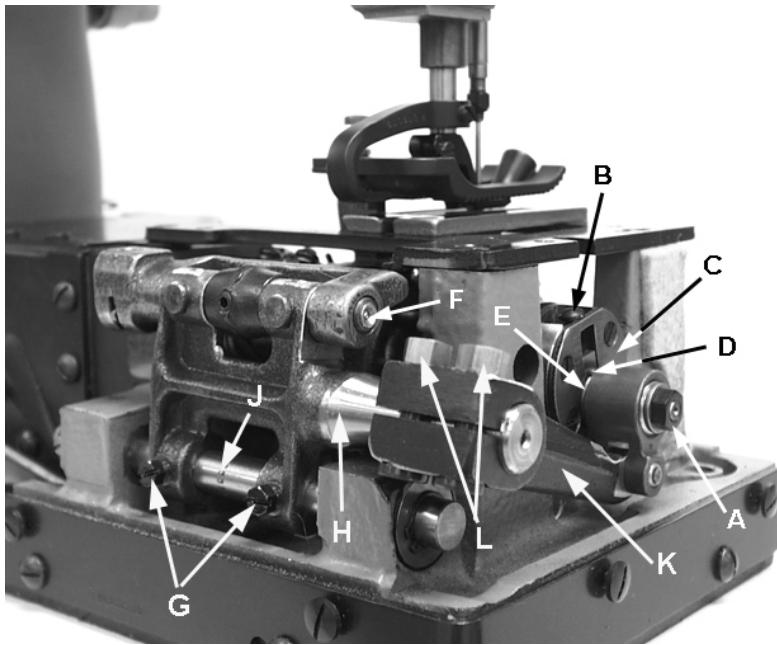

Fig 12
Right to left adjustment can be made by loosening screws (G, Fig. 12) and slightly move feed rocker (H) on feed rocker shaft (J) as required, then retighten screws. Check to ensure that feed rocker arm (K) does not bind after adjustment. Forward or rearward centering of feed dog can be accomplished by loosening nuts (L, Fig. 12), move feed rocker (H) as required and retighten nut.
Set the stitch to required length. This is accomplished by loosening lock nut (A, Fig. 12) 1/2 turn, (it has a left hand thread) on the end of the stitch regulating stud and turning stitch adjusting screw (B) located under the left end of the cloth plate in the head of the mainshaft (C), which is marked with "L" and "S". Turning the screw in a clockwise direction shortens the stitch (moves stitch regulating stud toward the "S") and turning it in a counterclockwise direction lengthens the stitch (moves stitch regulator stud toward the "L"). Retighten the lock nut securely. To prevent destructive damage to the feed drive bearing, key screw (D) must engage the "U" shaped key slot in ferrule (E).
Grease fittings have been added to both ends of feed bar shaft (F, Fig 12). It is advisable to add #2 bearing grease at these points every month using grease gun AS60-187. A can of grease can be ordered under part number GR18.